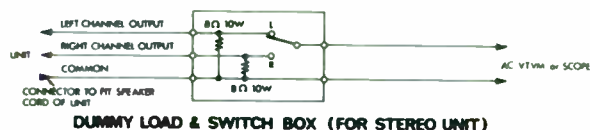

Fig. 2
2. Connect an AC voltmeter (VTVM) across speaker or dummy load (8 ohms, 10W, wirewound resistor) See Fig. 2.